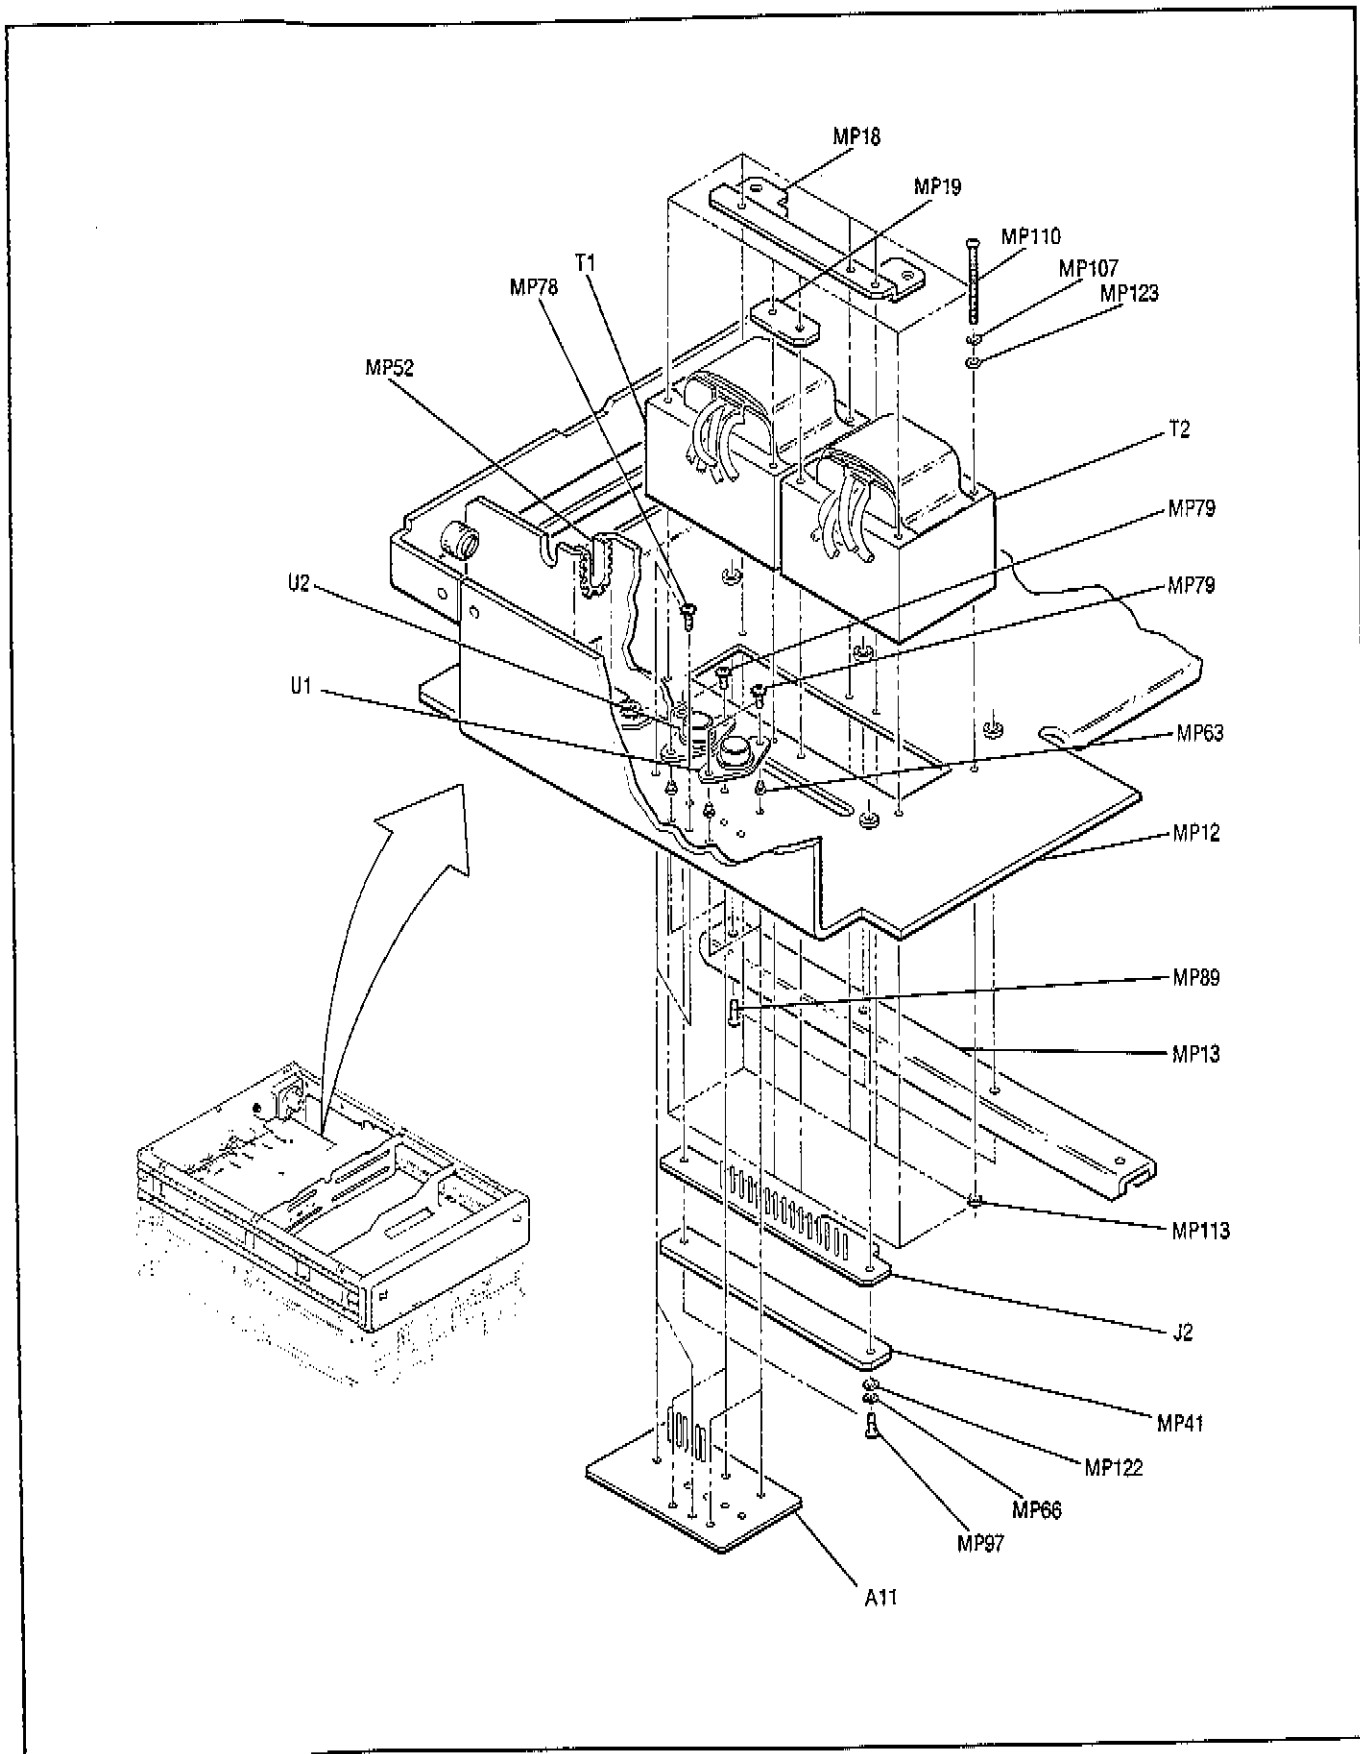

Figure 8-309. A5 Power Transformers
- c. Remove the three screws securing Transformer Board Support A5MP18 through the transformer to the Main Deck A5MP18. (Refer to Figure 8-309.)